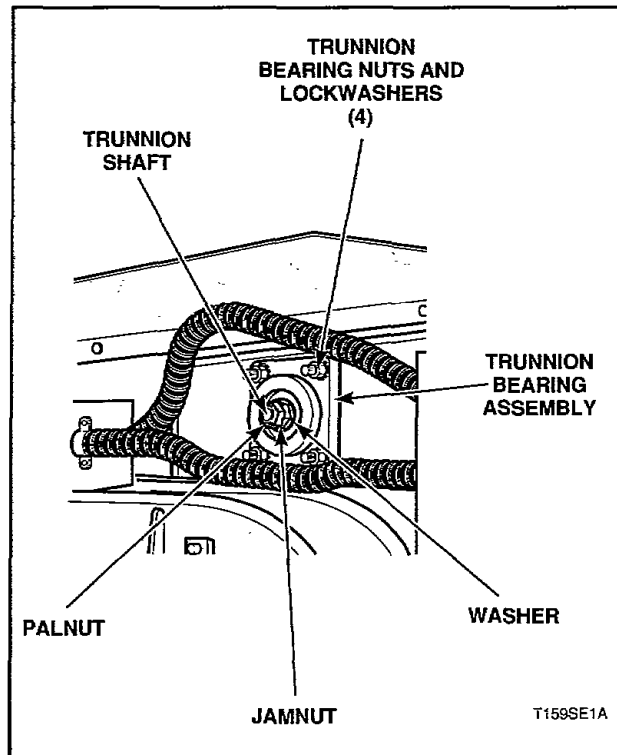

Figure 12
- Remove palnut, jamnut and washer from end of trunnion shaft located at rear of unit, *Figure 12*.
17. TRUNNION BEARING ASSEMBLY (*Figure 12*)